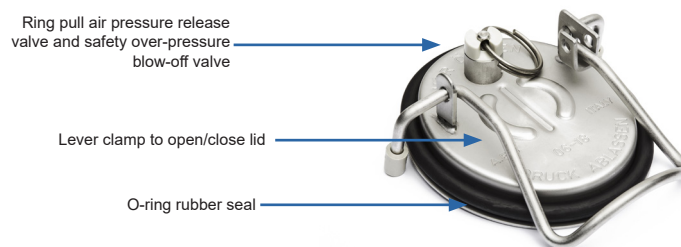

Fig. 1
1. Lift and turn the air release valve on the top of the cylinder to release the pressure in the unit. (Fig. 1)
2. Once all the pressure has been released, loosen the lever clamp on filler cap and remove. (Fig 1)
5. Check the O-ring rubber seal (Fig. 1) is correctly aligned. Replace the filler cap and clamp back into position.